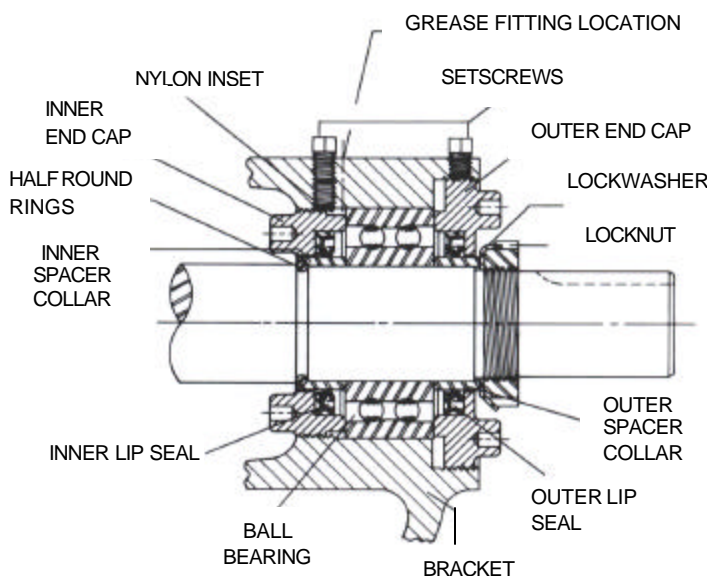

FIGURE 6
8. Loosen setscrews. Two on G, H and HL size pumps, four on all other sizes. With a spanner wrench, remove both end caps with lip seals. Remove ball bearing and spacer collars. Refer to Figure 6.
Place pair of half round rings on shaft and slide inner bearing spacer collar over half round rings to lock them in place. There is no pair of half round rings on G, H and HL size pumps. Refer to Figure 6, page 4.
8. Press lip seal, lip facing end of shaft, in inner end cap and insert end cap through shaft end of bracket. Turn end cap clockwise, looking at shaft end, until it engages threads. End cap spanner wrench holes must be facing rotor. Turn end cap with spanner wrench until it projects slightly from opening on side of bracket. End cap must not be turned so far that lip seal drops off end of spacer collar on shaft or end cap becomes disengaged from threads. Refer to Figure 6, page 4.
10. Press lip seal, lip facing end of shaft, in outer end cap and insert end cap in bracket. Turn end cap in bracket until it is tight against bearing. Refer to Figure 6, page 4.
7. Loosen setscrews. Two for G, H and HL size pumps, four for all other sizes. With spanner wrench remove both end caps and lip seals. Remove ball bearing and spacer collars. Refer to Figure 6, page 4.
12. Press lip seal, lip facing end of shaft, in inner end cap and insert end cap through shaft end of bracket. Turn end cap clockwise, looking at shaft end, until it engages threads. End cap spanner wrench holes must be facing rotor. Turn end cap with spanner wrench until it projects slightly from opening on side of bracket. End cap must not be turned so far that lip seal drops off end of spacer collar on shaft or end cap becomes disengaged from threads. Refer to Figure 6, page 4.